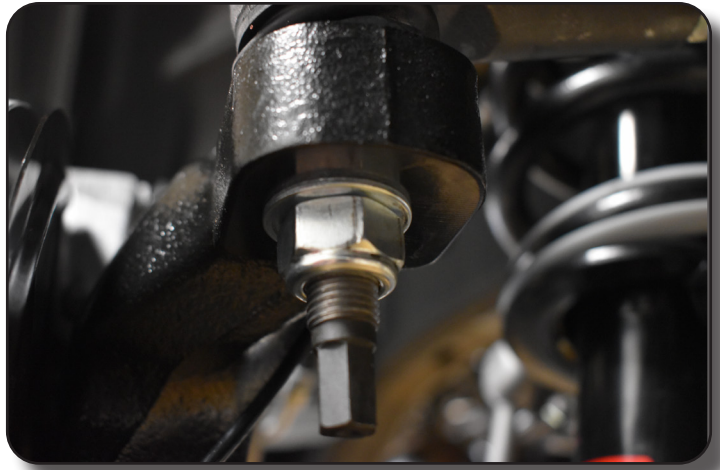

Figure 59
92. Connect tie rod end to knuckle using provided nut and washer. Fig. 59 Torque tie rod end nut to 55 ft-lbs. Once torqued, grease the tie rod end at the zerk fitting.